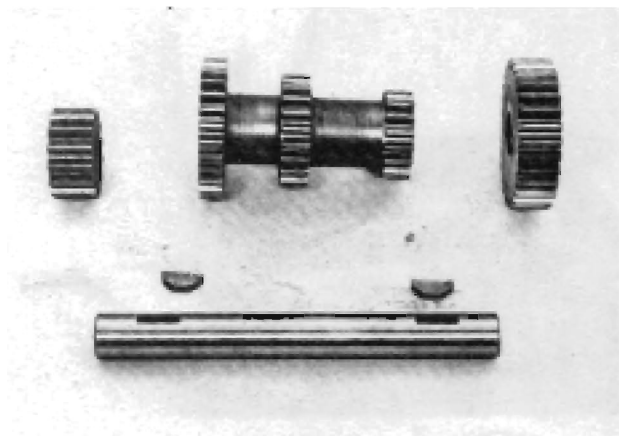

FIGURE 11
17. The cluster gear may be disassembled, as shown in Figure 11. Disassemble and assemble carefully to avoid damage to the woodruff keys and bushings. The cluster gear bushings may be removed and installed using suitable arbors.